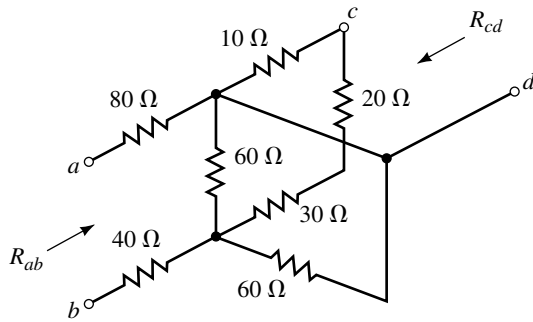

FIGURE 7-52
9. Calculate the resistances R_{ab} and R_{cd} in the circuit of Figure 7-52.